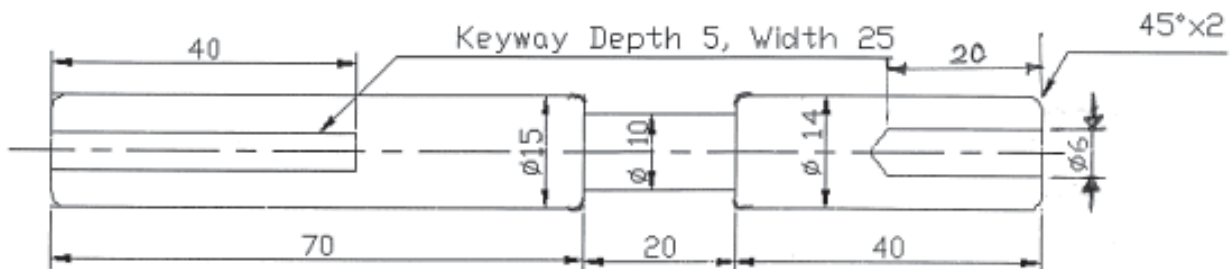

Fig.No.1.Guidedbar
1. Referring to Fig. No. 1, design the set of plate types of cams for a single spindle automat machine. Assume suitable data of machining parameters for mild steel material. The bar stock is $\Phi 15 \times 130$ and 200 pieces are to be manufactured. Also draw the layout for turret cam. 18